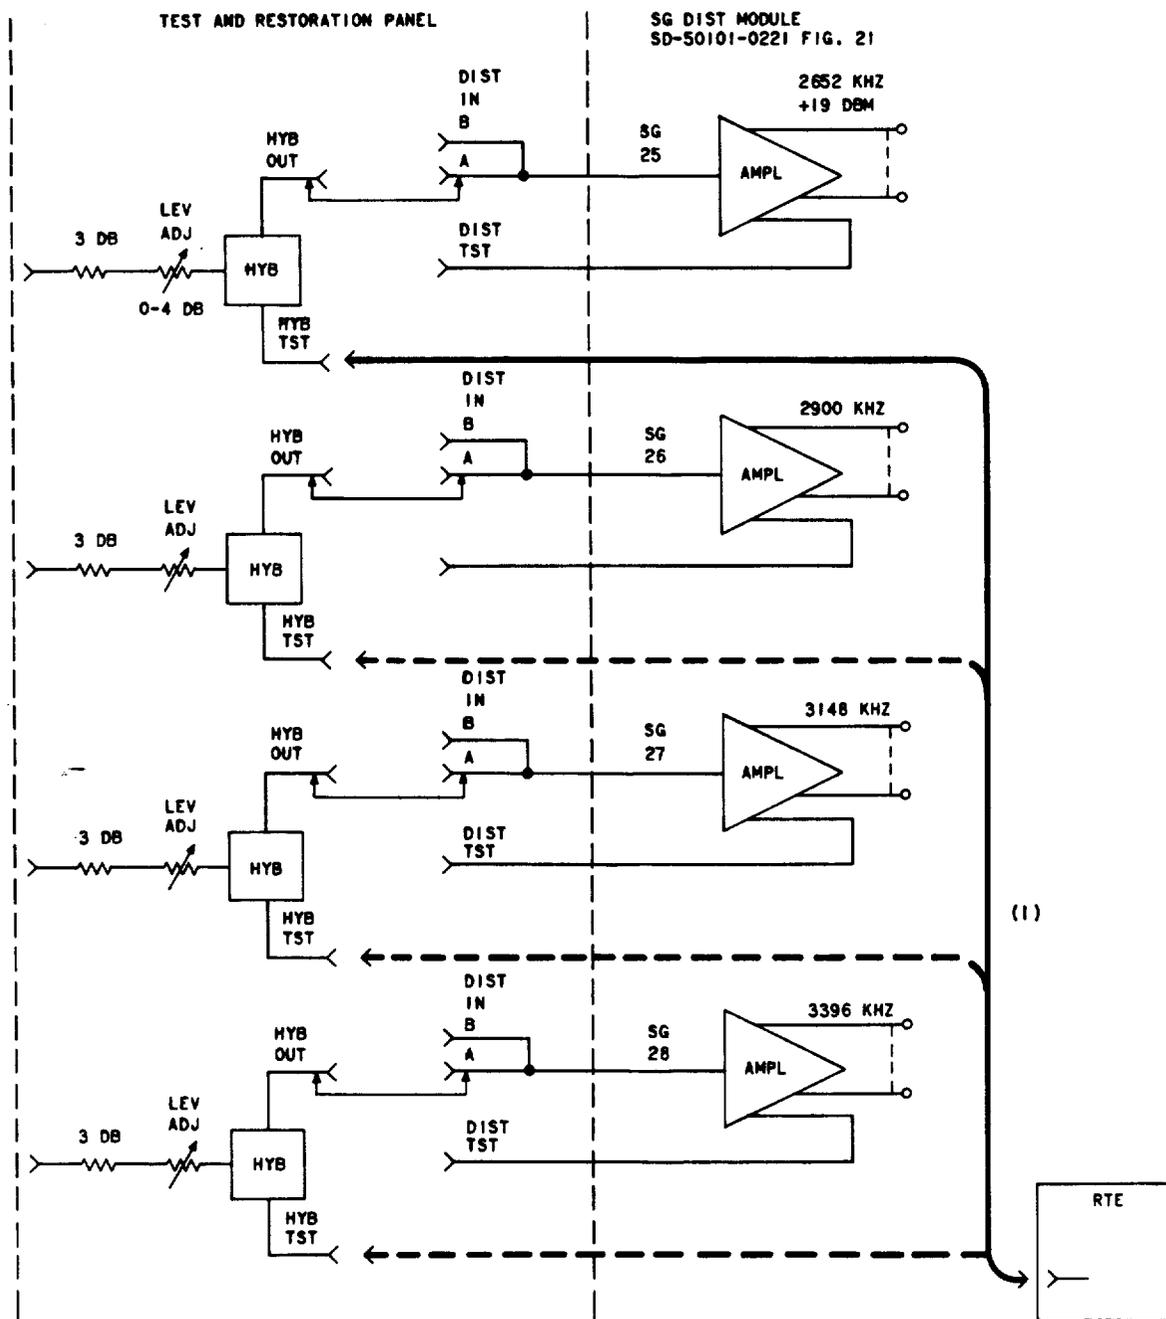

Fig. 6—Distribution Module Input—Test Connection
(b) Connect the RTE to the HBY TST [patch (1), Fig. 6].
(a) Disconnect the RTE from the HYB TST jack [patch (1), Fig. 6].